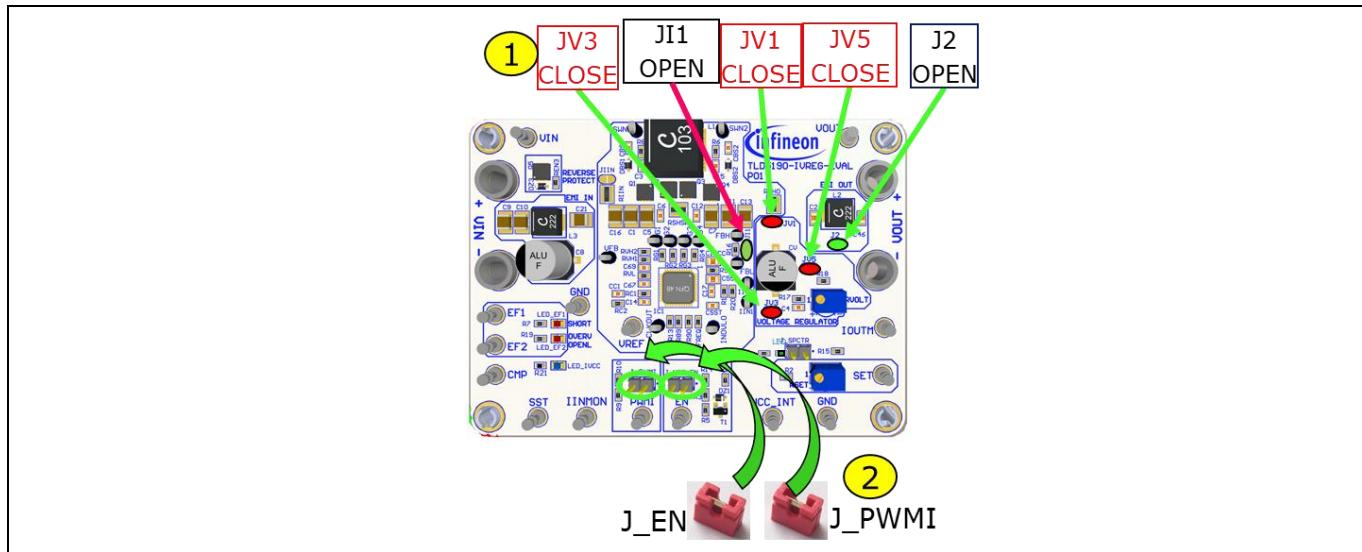

Figure 6 Voltage regulator: set EN jumpers, populate solder jumps
1. Configure solder jumper for VREG (Figure 6), if $I_{OUT} > 3$ A bypass RSH0 with a solder joint on the resistor top